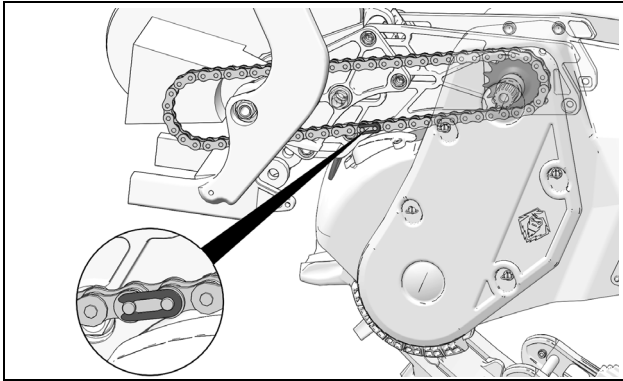

Figure 31
- Install the provided chain on the engine sprocket and join the ends using the master link. See Figure 31.